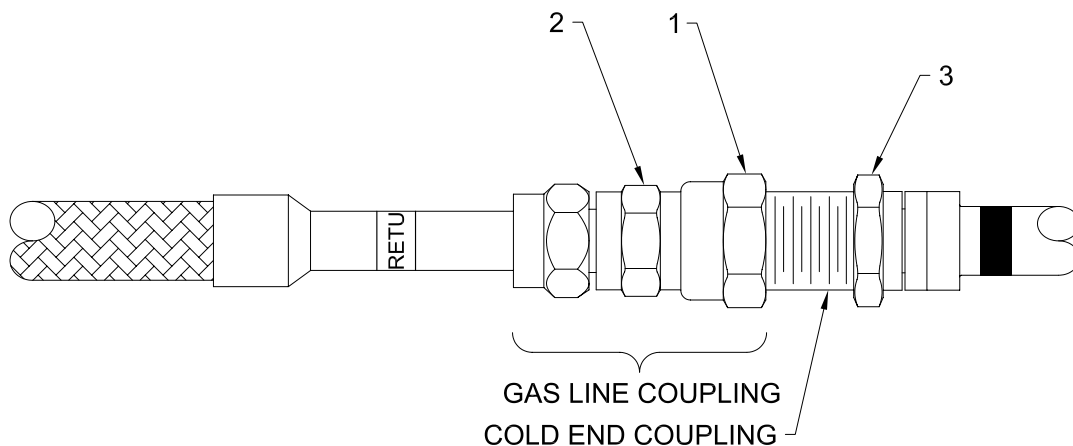

Figure 7A Connect Gas Line to Cryocooler
5. Connect the SUPPLY and RETURN gas lines to the corresponding couplings. When tightening the connection, first place a 19 mm (3/4") wrench on the freely-rotating part of the female coupling half (position "1" in Figure 7A) on the gas line and a 16 mm (5/8") wrench on the base of the female coupling half (position "2") on the gas line. Hold the 16 mm (5/8") wrench and turn the 19 mm (3/4") wrench clockwise. At the very end, remove the 16 mm (5/8") wrench and place another 19 mm (3/4") wrench on the base of the male coupling half (position "3") and tighten the connection between the male half and female half until the torque specification is met. **Torque all couplings to 8 to 10 N•m (6 to 8 lb•ft). (Use 14 to 16 N•m or 10 to 12 lb•ft if both the male half and female half are Aeroquip/Parker 5400 series couplings).** Fully tighten each coupling before proceeding to the next one.